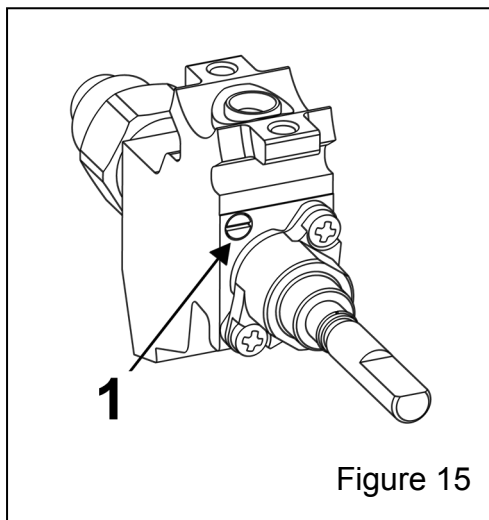

Figure 15
3. Insert a small screw driver into the hole on the upper left side of the gas valve stem (depending on the gas valve design), fully tighten the low flame setting screw (Figure 15, pos. 1).